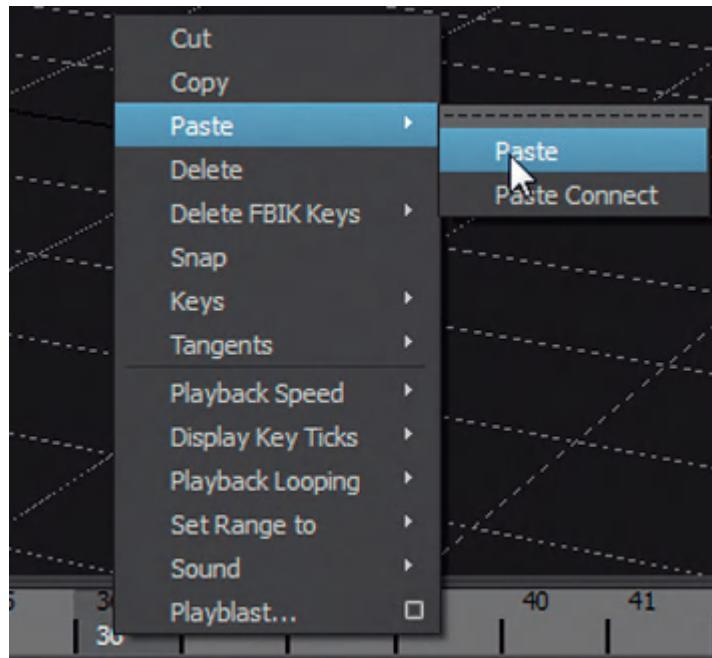

FIG 9.7 Setting the key that defines the moment of impact.
Step 11: Set the keyframe for the landing. To do this, we'll explore a little bit different method. This keyframe on the landing will look very similar to the keyframe where the sphere leaves the ground (frame 12). Move the Current Time Marker to frame 12 and then right-click-hold on it and choose Copy. Then, move the Current Time Marker to frame 36 and again right-click-hold and choose Paste > Paste (Fig. 9.7).